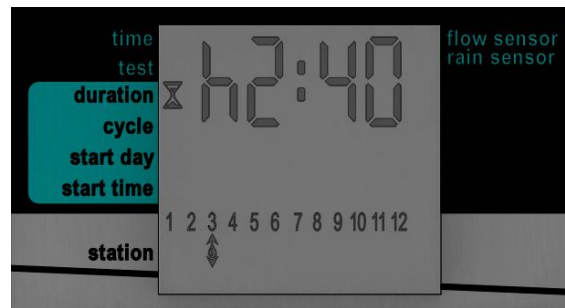

Figure 20: Duration Screen Example
1. Press **↶** until the Duration screen is displayed (Figure 20).
In Figure 20, the duration set is for 2 hours and 40 minutes for station 3. A duration of 0:00 sets the station to never open its valves (and therefore the sequence skips to the next station immediately).